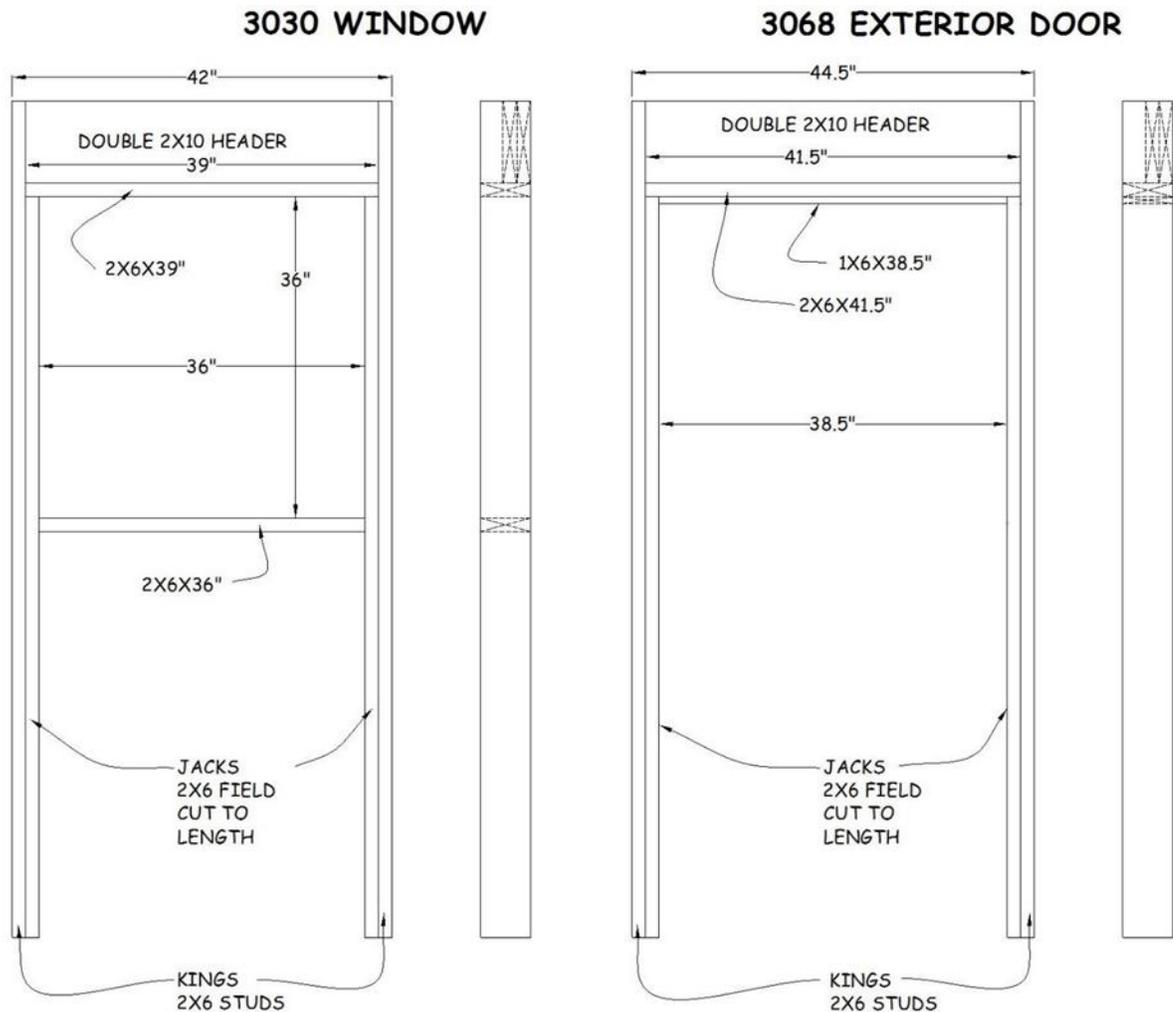

Figure 4-1. Component Assembly Drawing.
- b. For windows, FIRST CREATE AN “H” ASSEMBLY of the two field cut Jack studs and the matching 2x6 sill piece. Clamp and nail the “H” to the King studs using pairs of 3¼” Paslode nails no more than 12” apart (see Figure 4-1). DO NOT nail the Jack studs to the King studs before creating the “H”.